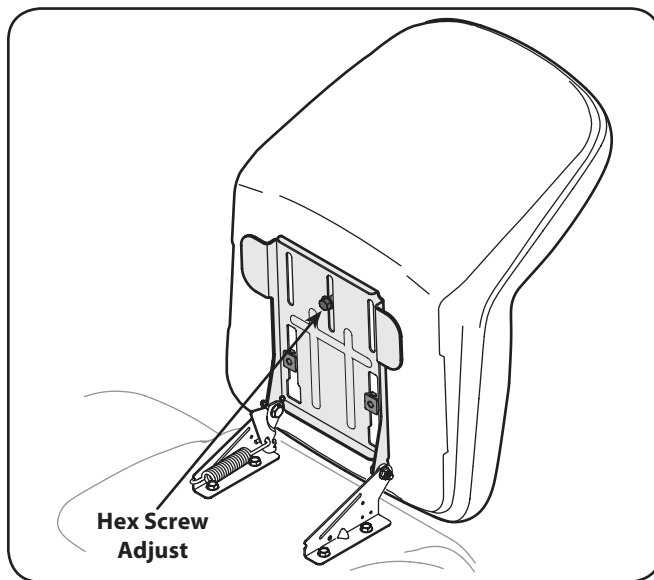

Figure 3-4
5. To adjust the position of the seat, loosen the hex screw on the bottom of the seat. Slide the seat forward or backward as desired. Retighten the hex screw. See Fig. 3-4.